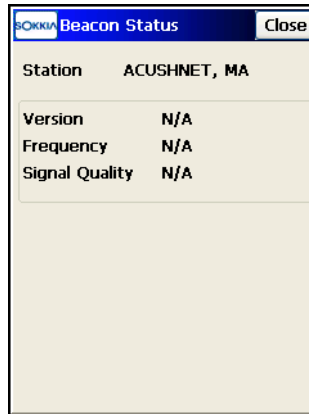

Figure 8-23. Beacon Status
2. Tap **Status** to view the status of the link to the radio-beacon. On the *Beacon Status* screen, the following information is shown, if applicable: the name of station, the Beacon board version, the broadcasting frequency, and signal-to-noise ratio (Figure 8-23 on page 8-23).